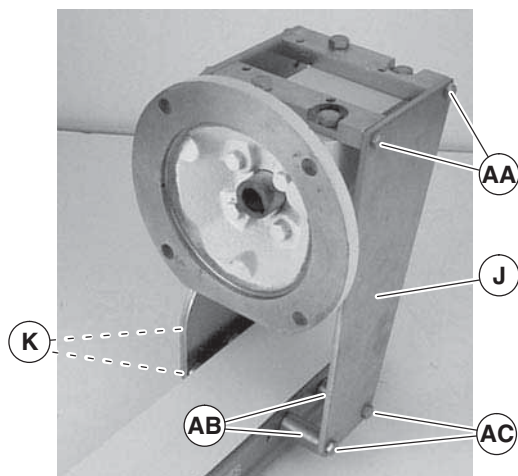

Figure 5
7200 Series 4" (102mm) and wider mounting assembly shown. 2" (51mm) and 3" (76mm) wide mounting assemblies include two spacer tubes (Figure 5, item AB) and two long M6 screws (AC).
- b. For 2" (51mm) and 3" (76mm) conveyors, loosen two screws (Figure 5, item AA) on each side of top mount assembly (J). Attach top mount assembly to conveyor with two spacer tubes (AB) and screws (AC), and two screws (K). Tighten all screws to 92 in-lb (10.4 Nm).